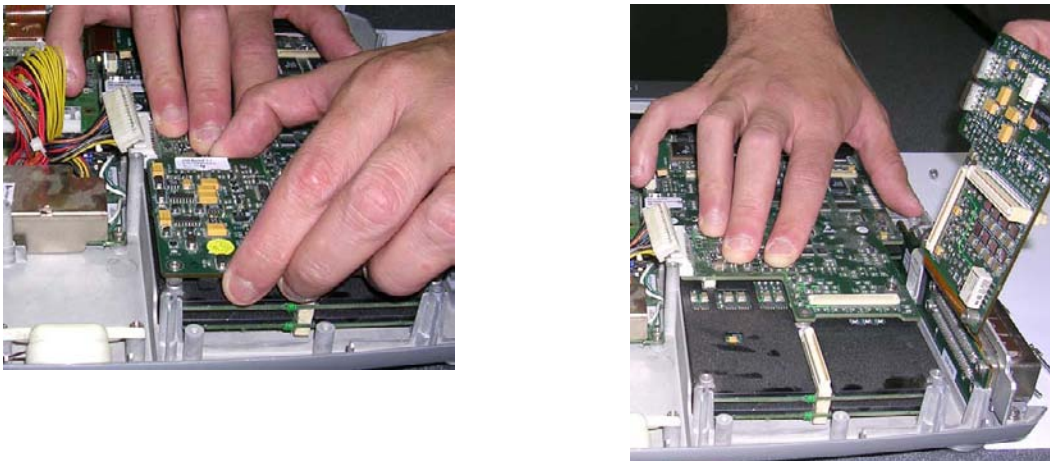
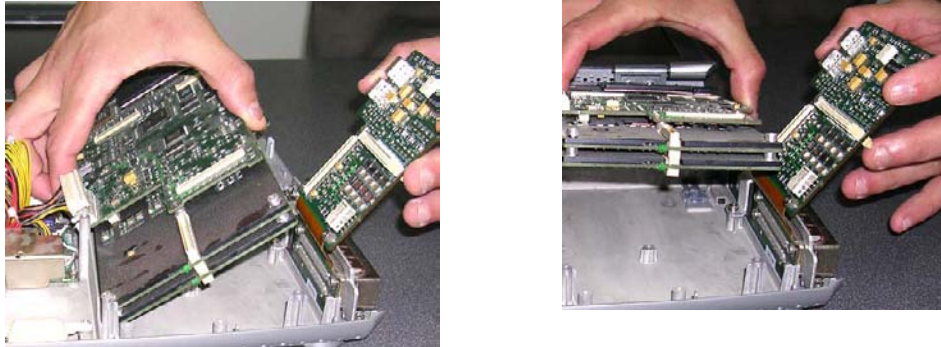

Figure 8-29 Accessing the RFI and TR32 Boards
Figure 8-30 Removing the RFI and TR32 Boards from the Bottom Assembly
- 6) Gently lift one side of the P&M Board upwards and hinge it open to gain access to the RFI and TR32 Board assembly beneath, as shown in Figure 8-30 below.
- 7) Lift the RFI and TR32 Board assembly upwards and remove it from the Bottom Assembly, as shown in Figure 8-30 below
- 3) Return the TR32 and RFI Board assembly to the system, placing it in position on the Bottom Assembly. (While performing this step, gently lift one side of the P&M Board upwards and hinge it open in order to insert the TR32 and RFI Board assembly underneath). Refer to Figure 8-29 and Figure 8-30 on page 8-30 .